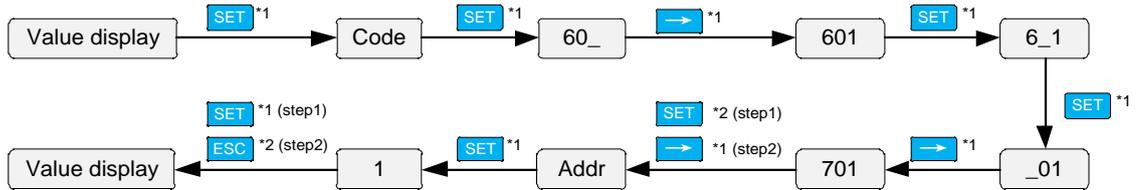

Figure3-47 The setting of the smart meter address (three- phase)
- When there is a PV inverter in the user's home, it is recommended to install the smart meter in the grid output side of the PV inverter to ensure the accuracy of grid electricity statistics, and the address is set to A-002. As shown in Figure3-47.
The setting of the smart meter address is as shown in Figure3-47.